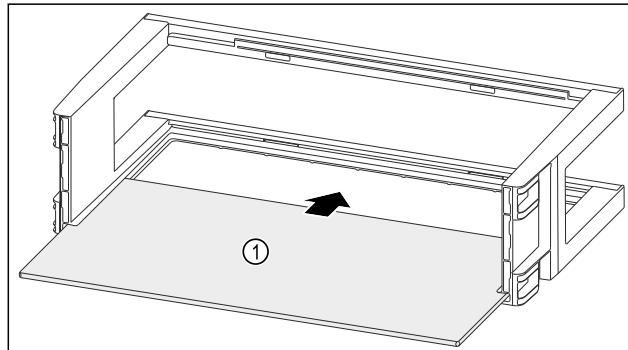

Fig. 134
- Push the shelf Fig. 134 (1) into the side recesses.